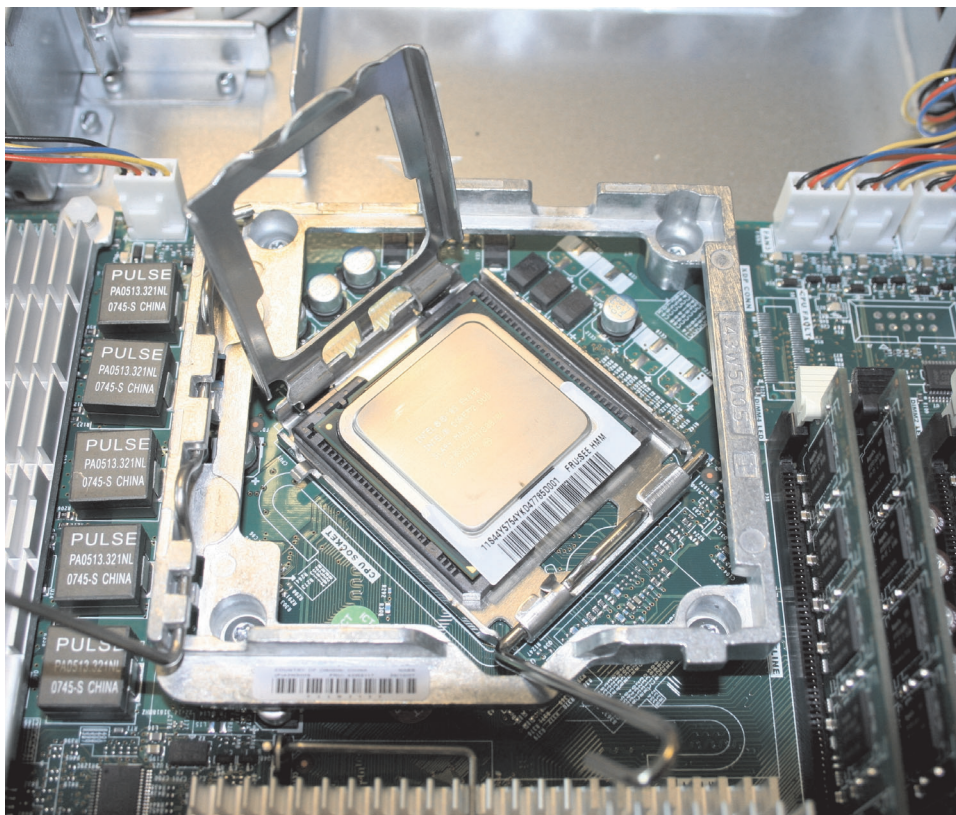

Figure 293. The SAN Volume Controller 2145-8A4 microprocessor bracket frame fully opened
2. Orient the microprocessor retention module as shown in Figure 293.